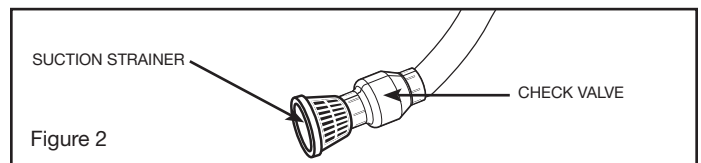

Figure 2
3. A check valve MUST be used in the suction line to maintain the self-priming capability. If no check valve is used the pump will need to be primed at the start of each operation. For best operation, the check valve should be installed at the intake of the section line. (Figure 2)